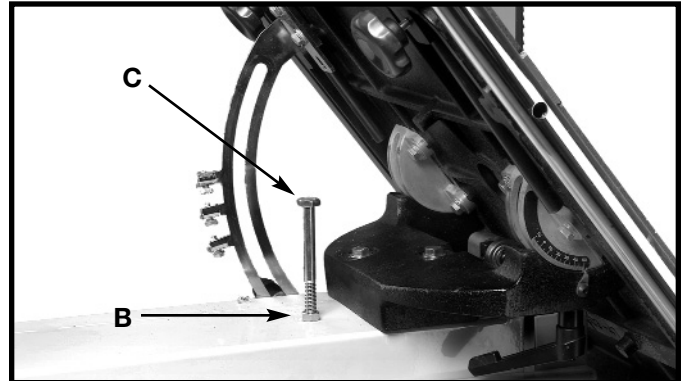

Fig. 25
3. If an adjustment is necessary, loosen the locknut (B) Fig. 25 and tighten or loosen the adjusting screw (C) until the head of the screw (C) contacts the bottom of the table when the table is 90 degrees to the blade.
4. Tighten the locknut (B).